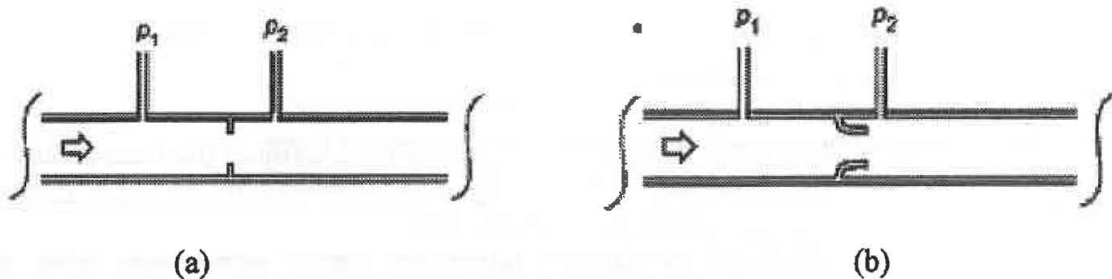

Figure 2 (Rajah 2)
- (b) Identify the flow sensors in Figure 2 and explain each of the sensors